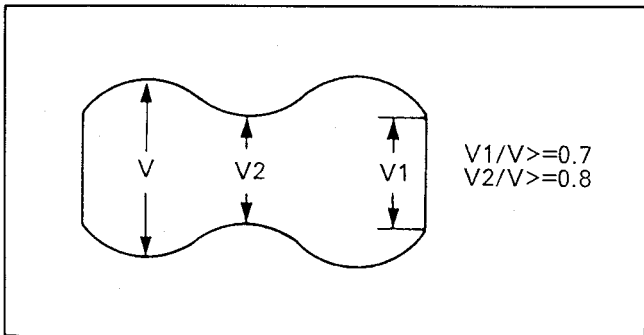

Fig. M12 Spec. of Envelope Figure
8. Set the tracking control into centre fix position and adjust for maximum RF envelope. If the RF envelope does not meet these specifications,  $V1/V >= 0.7$ ,  $V2/V >= 0.8$  (Refer to Fig.M12) then repeat steps 1-8 again.